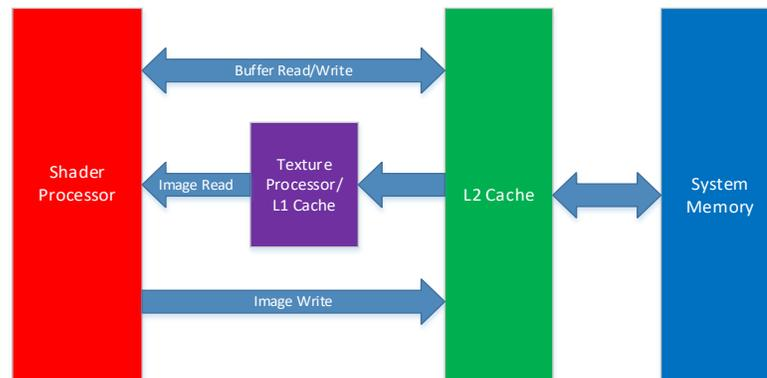

Figure 3-1 High-level architecture of the Adreno A5x GPUs for OpenCL
Adreno GPUs support many graphics and compute APIs, including the OpenGL ES, OpenCL, DirectX, and Vulkan, etc. Figure 3-1 illustrates a high-level view of the Adreno A5x hardware architecture for OpenCL, where the graphics related hardware modules are skipped. There are many differences between A5x and other Adreno GPUs, while for OpenCL the differences are relatively minor.
- Shader (or streaming) processor (SP)
- Adreno GPUs may contain one or more SPs, dependent on GPU series and tiers. A low-tier chipset may have a single SP, while a high or premium tier chipset may have more SPs. In Figure 3-1, there is only one SP.
- Texture processor (TP)